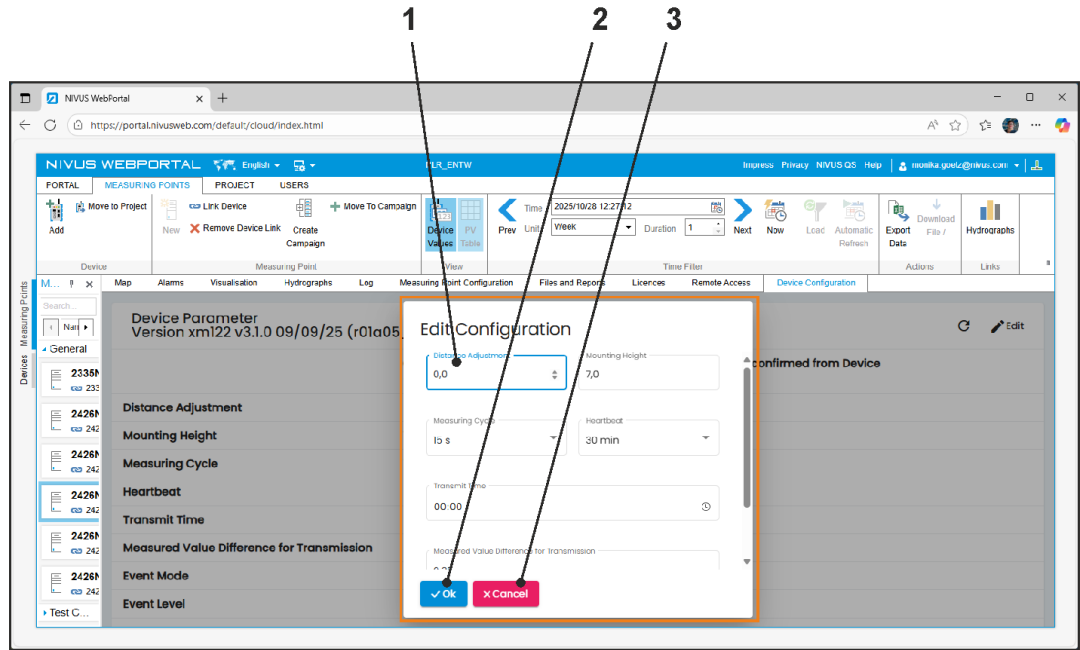

Fig. 30-2 Edit sensor parameters in the NIVUS WebPortal
An editing window (Fig. 30-2 Pos. 1) opens and the values can be changed there.
2. Press "OK" (Fig. 30-2 Pos. 2) to save the entered parameters and note "Not yet confirmed by device" in the right-hand column.
press "Cancel" (Fig. 30-2 Pos. 3) to cancel the editing process without accepting values. The sensor continues to work with the last saved parameters.